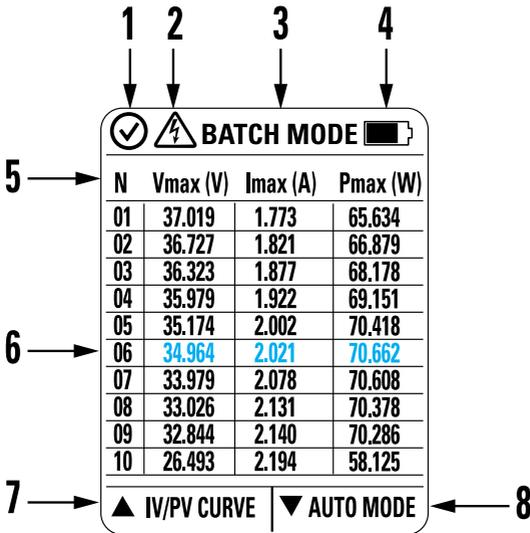

Figure 5.5 Batch mode screen. Each numbered item in the figure is defined below.
2. From the Home screen, press the up arrow button to access the Batch mode screen. A table with ten rows will appear, as shown in Figure 5.5, below.